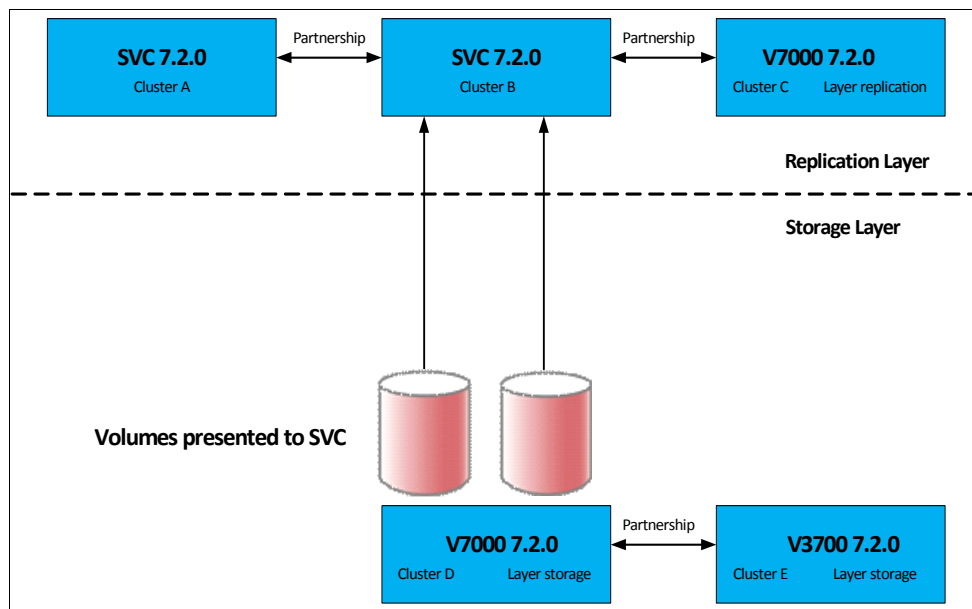

Figure 4-19 Replication Layer and Storage Layer
**Layers:** SVC 6.3 introduces a new property for the clustered system that is called *layer*. This property is used when a copy services partnership exists between an SVC and an IBM Storwize V7000. There are two layers: *replication* and *storage*. All SVC clustered systems are *replication* layers and cannot be changed. By default, the IBM Storwize V7000 is a *storage* layer and must be changed with the CLI command `chsystem` before you use it to make any copy services partnership with the SVC. Figure 4-19 shows an example for replication and storage layer.